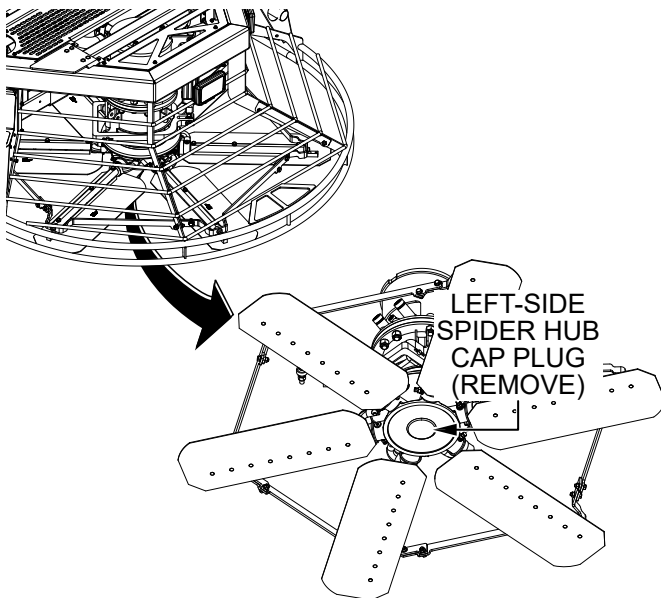

Figure 73. Remove Left-Side Spider Hub Cap Plug
1. Remove the left-side spider hub cap plug (Figure 73) and set it aside.